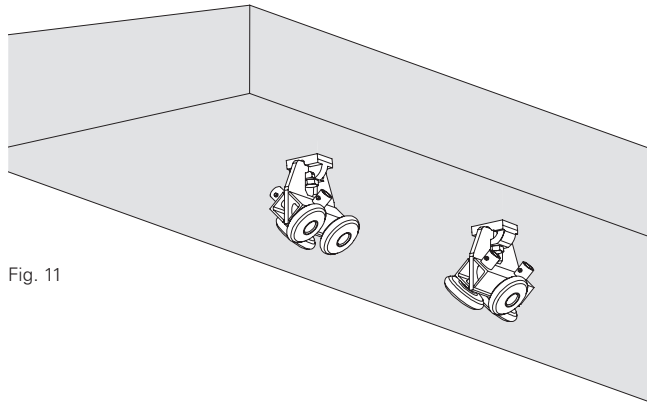

Fig. 11
Make sure that the Suspension Head M24 VARIOKIT (16) is mounted correctly. The hook pockets of the Suspension Head M24 VARIOKIT (16) should always point alternately towards the outer edge and inner edge of the cantilever. (Fig. 11)